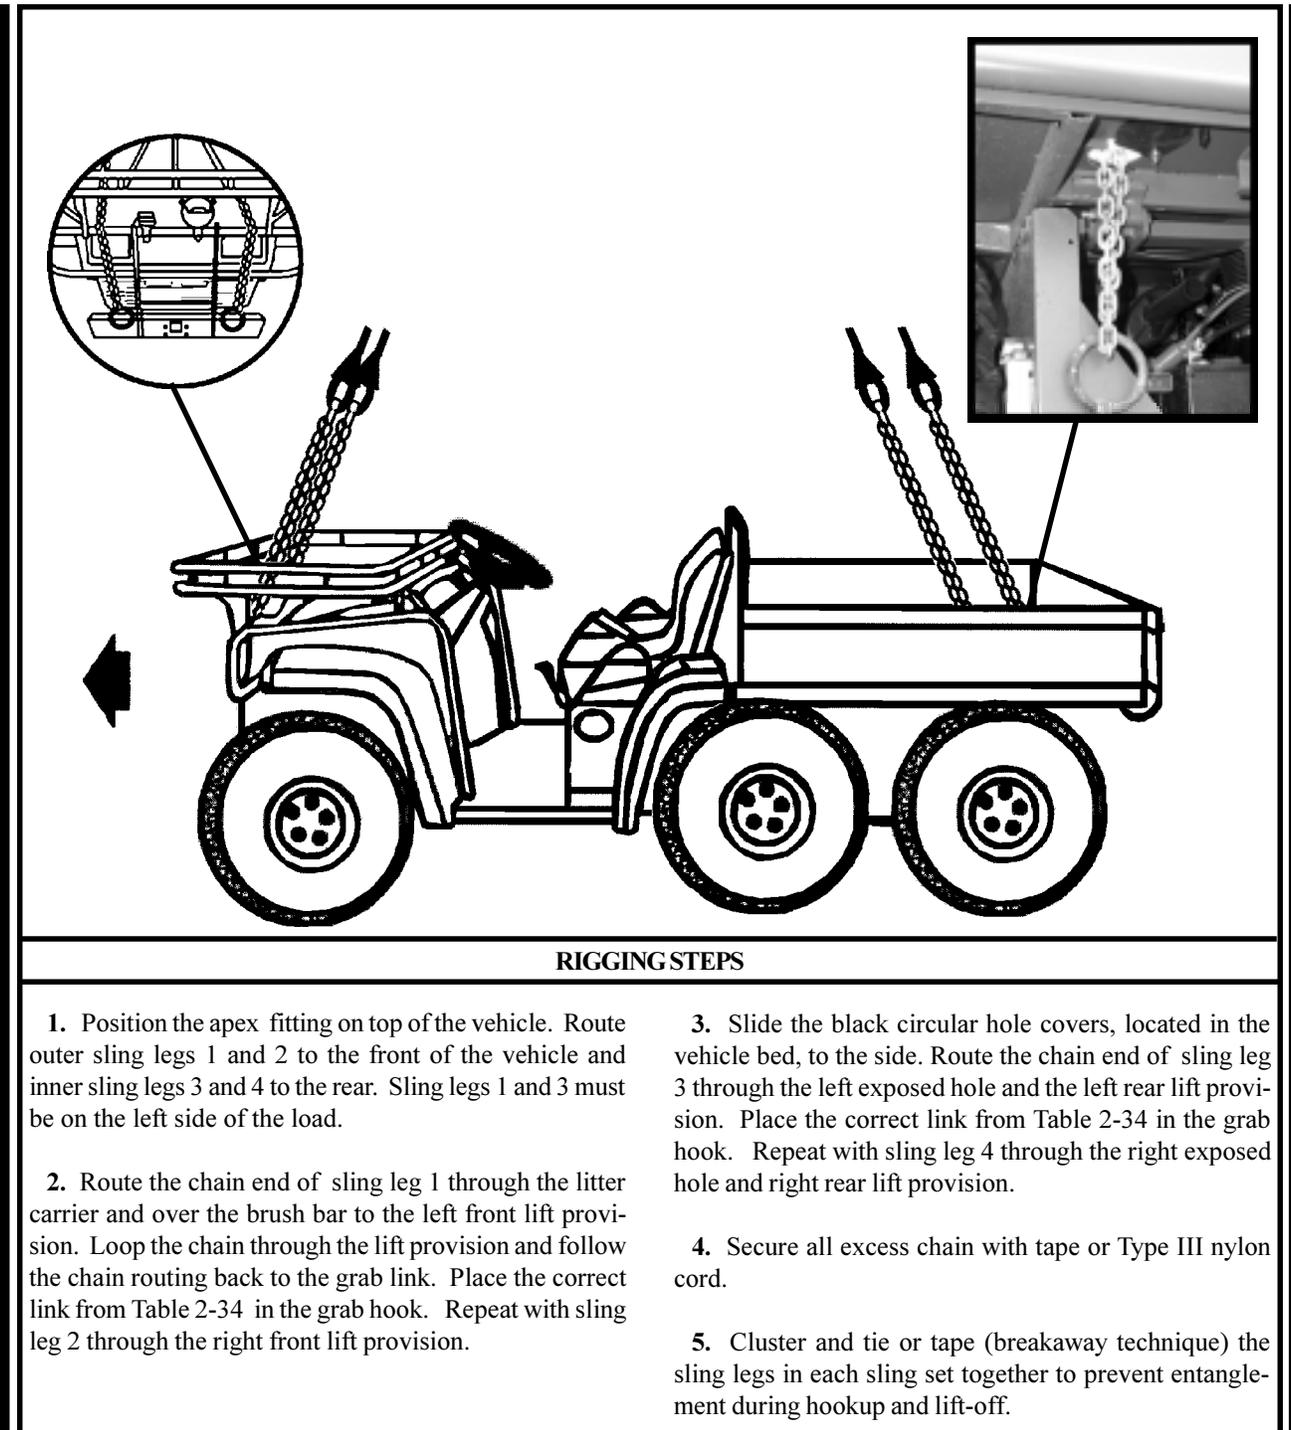

Figure 2-33. John Deere M-Gator (Model #VGM6X01001)
(2) Rigging. Rig the load according to the steps in Figure 2-33.
(3) Hookup. The hookup team stands on the vehicle. The static wand person discharges the static electricity with the static wand. The hookup person places the apex fitting on the cargo hook. The hookup team then carefully dismounts the vehicle and remains close to the load as the helicopter removes slack from the sling legs. When successful hookup is assured, the hookup team quickly exits the area underneath the helicopter to the designated rendezvous point.
(4) Derigging. Derigging is the reverse of the preparation and rigging procedures in steps d (1) and d (2).